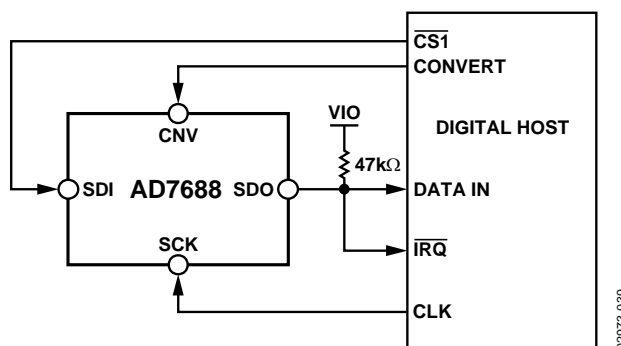
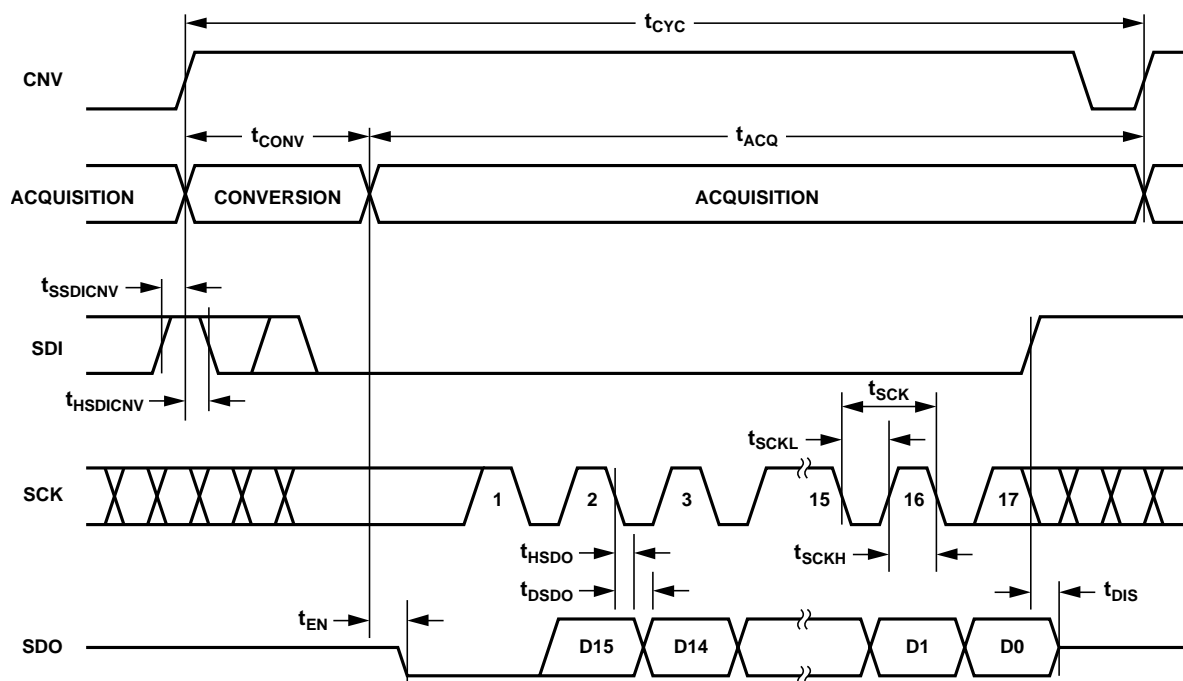

Figure 40.  $\overline{\text{CS}}$  Mode 4-Wire with BUSY Indicator Connection Diagram
Figure 41.  $\overline{\text{CS}}$  Mode 4-Wire with BUSY Indicator Serial Interface Timing
- In the  $\overline{CS}$  mode, if CNV or SDI is low when the ADC conversion ends (Figure 37 and Figure 41).
The connection diagram is shown in Figure 40 and the corresponding timing is given in Figure 41.